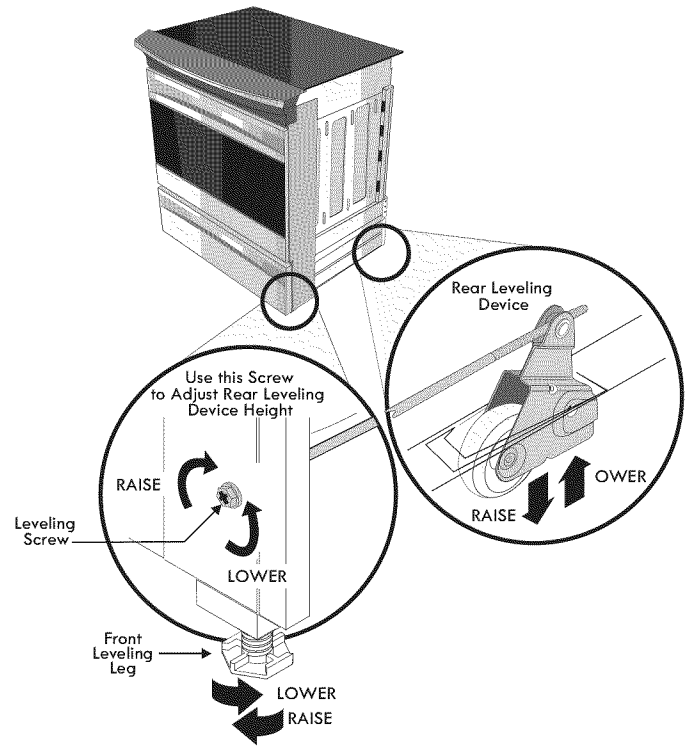

Figure 9
2. Adjust the appliance legs as follows until the underside of the cooktop surface is sitting level on the countertop (Fig. 9).